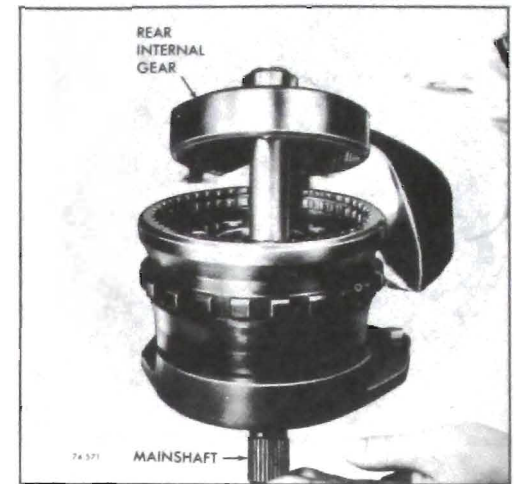

Figure 76-571
12. Remove rear internal gear and mainshaft. See Figure 76-571.